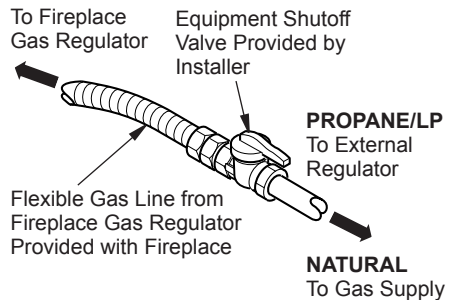

Figure 23 - Attaching Flexible Gas Line to Equipment Shutoff Valve
NOTICE: Most building codes do not permit concealed gas connections. A flexible gas line is provided to allow accessibility from the fireplace (see Figure 23). The flexible gas supply line connection to the equipment shutoff valve should be accessible.
4. Apply pipe joint sealant lightly to male threads of gas connector attached to flexible gas line/equipment shutoff valve (see Figure 23).